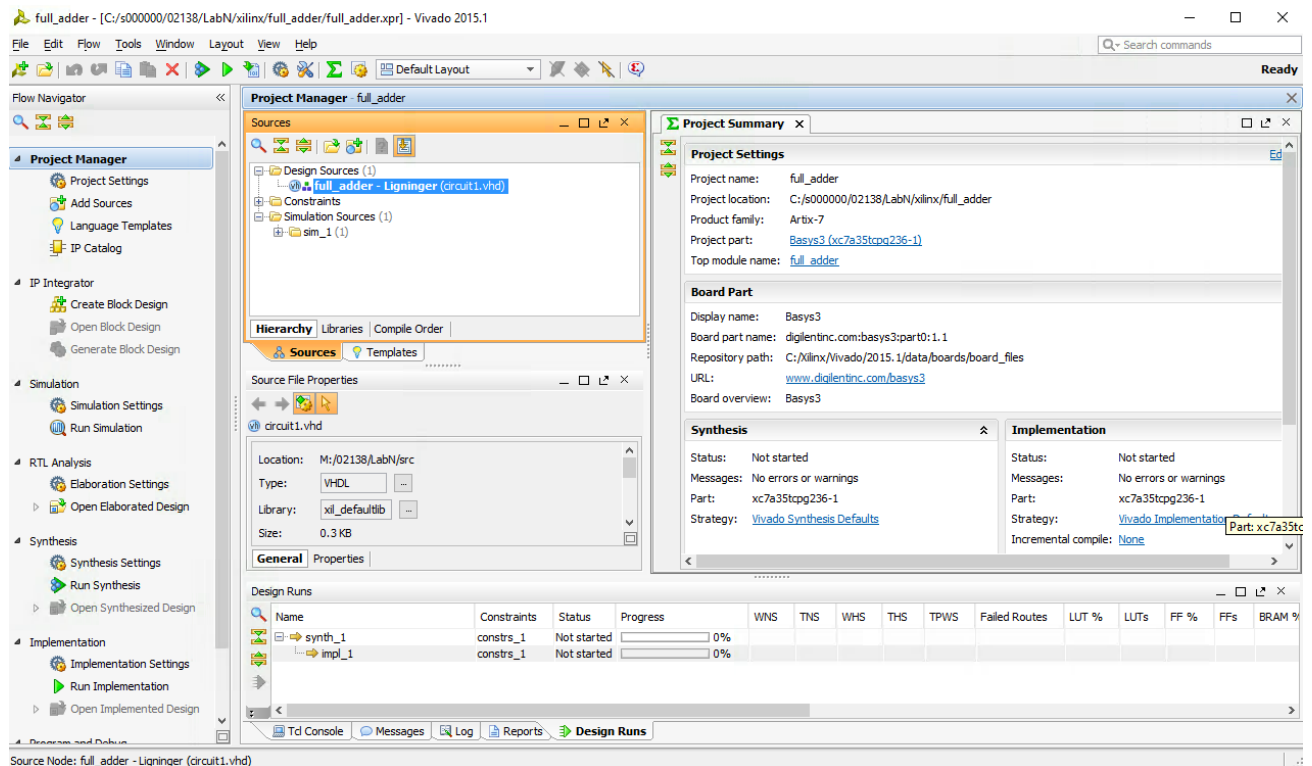

Figure 19. Vivado window.
21. The Vivado window should now look like Figure 19.